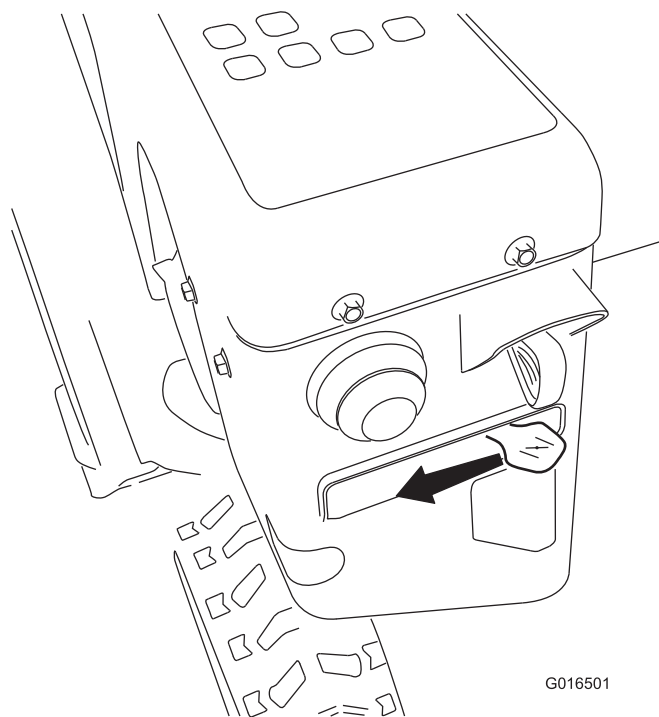

Figure 22
5. Move the choke to the CHOKE position (Figure 22).